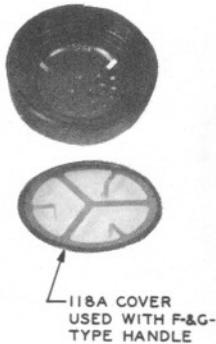

Fig. 9 — 118A Transmitter Cover
9.02 The 118A cover is intended for use on F- and G-type handsets associated with coin stations located in outdoor booths where subfreezing temperatures are encountered. Cover prevents condensed moisture from freezing in grid holes of transmitter cap. (See Fig. 9.) Its use shall be designated locally.